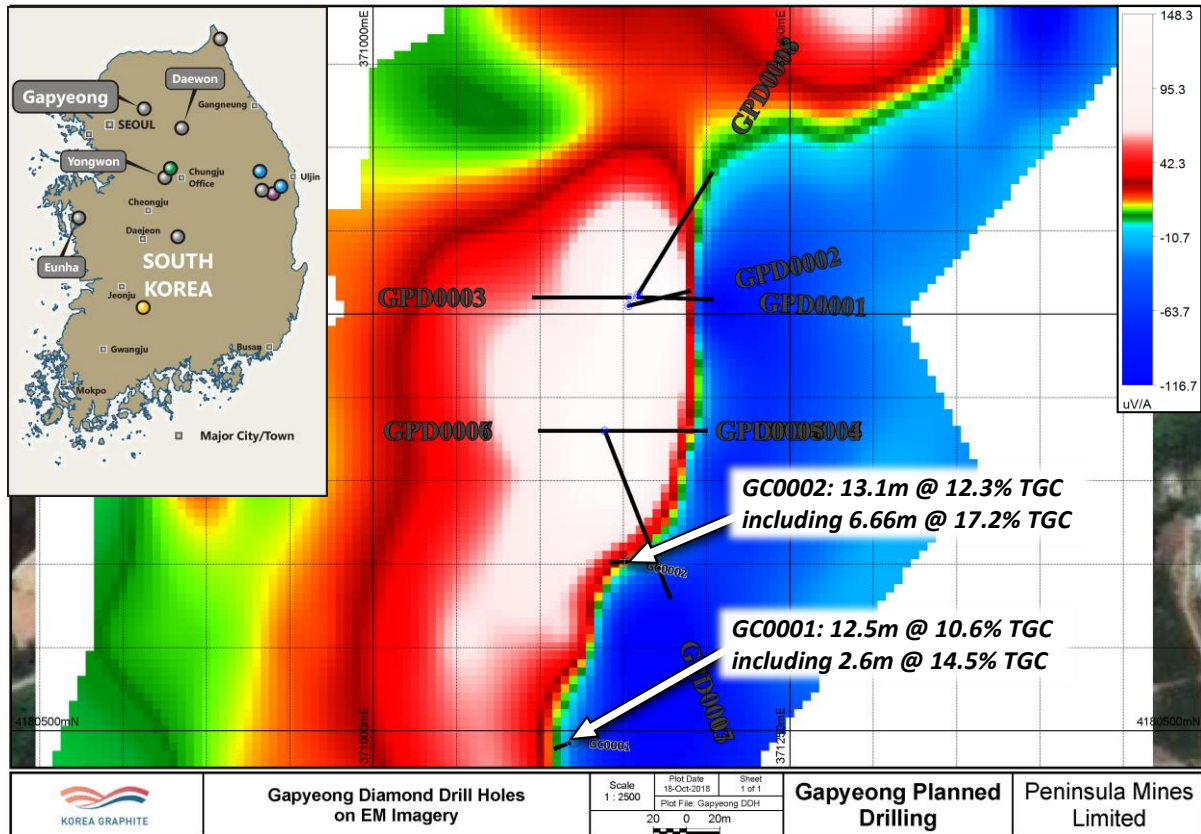

Figure 1: Gapyeong drillhole locations (completed & planned), channel sampling intersections on EM anomaliesD3
Peninsula Mines Ltd (ASX:PSM) has intersected graphitic mineralisation in the first three drillholes of the current diamond drilling programmeD1,D2 on its high-grade Gapyeong Flake-Graphite Project, located 50km east of Seoul in South Korea (see Figure 1, inset, for location).
The initial three diamond drillholes, for 223.4m, tested section 4,180,760mN to the north of the outcropping graphitic units and included two holes, GPD0001 and GPD0002, that tested the eastern graphitic unit and GPD0003 that tested a projected western graphitic unit (see locations Figure 1). All three holes intersected significant widths of graphitic mineralisation as summarised below (see Appendix 1 for drillhole locations and intersection geology interval summaries):
Previous channel sampling intersections to the south of the current drilling included **GC0002: 13.1m @ 12.3% Total Graphitic Carbon (TGC) including 6.66m @ 17.2% TGC** and **GC0001: 12.5m @ 10.6% TGC including 2.6m @ 14.5% TGCD3** (see Figure 1).
<p>For geophysical tools, spectrometers, handheld XRF instruments, etc, the parameters used in determining the analysis including instrument make and model, reading times, calibrations factors applied and their derivations, etc.</p>	<p>The Company commissioned Southern Geoscience Consultants (SGC) of Perth to undertake fixed loop electromagnetic (FLEM) surveys across the Gapyeong graphitic unit. The purpose of the survey was to determine the EM (conductivity) response of the outcropping graphitic unit and map the extent and geometry of the conductive unit along strike and at depth.</p> <p>The geophysical programme parameters were as follows:  Planning/Supervision: Southern Geoscience Consultants Pty Ltd (SGC)  Survey Configuration: Fixed Loop TEM (FLEM)  TX Loop Size: 200m x 700m (Gapyeong – 3 overlapping loops). Three overlapping TX loops at each site.  Transmitter: ZT-30  Transmitter Power: 72V (6 x 12V car batteries)  Receiver: SMARTem24  Sensor: RVR coil – vertical (Z) component  Line Spacing: 75m and 100m at Gapyeong  Line Bearing: 090° at Gapyeong  Station Spacing: 25m and 50m  TX Frequency: 5 Hz for Gapyeong (200msec time base)  Duty cycle: 50%  Current: 5 to 10 Amp  Stacks: 256 stacks  Readings: At least 3 repeatable readings per station  Powerline Frequency: 60 Hz</p> <p>Data was received on 29 channels from early to late time (shallow to deeper) during the Gapyeong survey. The anomaly displayed in Figure 1 shows the channel 25 image (50 msec after TX turnoff) approximating the location of the stronger and deeper parts of the conductive mineralisation down-dip from outcrop. The results of the EM work were discussed more fully in 14 March 2018 releaseD5.</p>